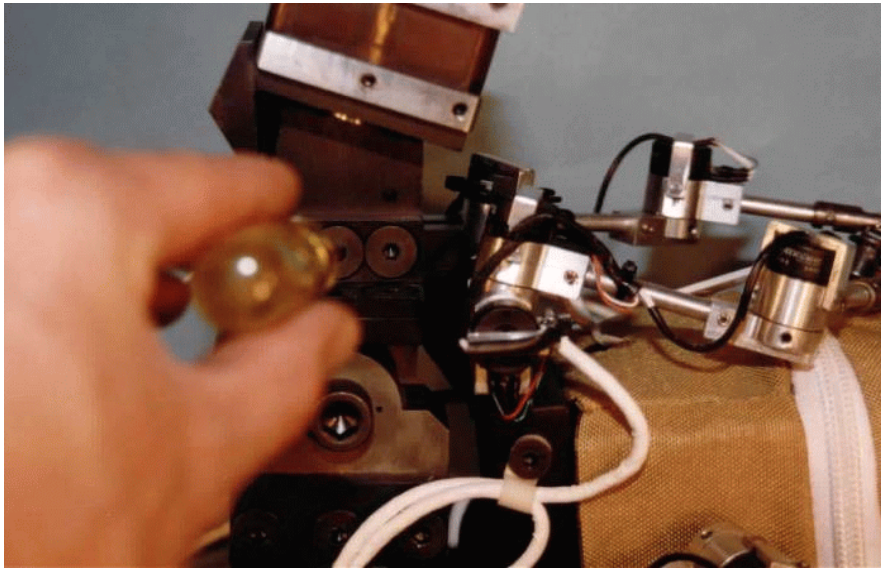

Figure 16.11- Upper Abdomen mounted to Spine
2. Secure the spinal mounting bracket of the upper abdomen assembly to the lower thoracic spine weldment placing two 5/16-18 x 1" FHSCS {3/16} into the two mounting holes in the spinal mounting bracket arms from the right side, as shown in **Figure 16.11**. The bolts should be inserted from the right hand side of the dummy and pass through one tab of the thoracic instrumentation bracket, through the holes in the lower thoracic spine weldment and thread into the other tab of the thoracic instrumentation bracket.